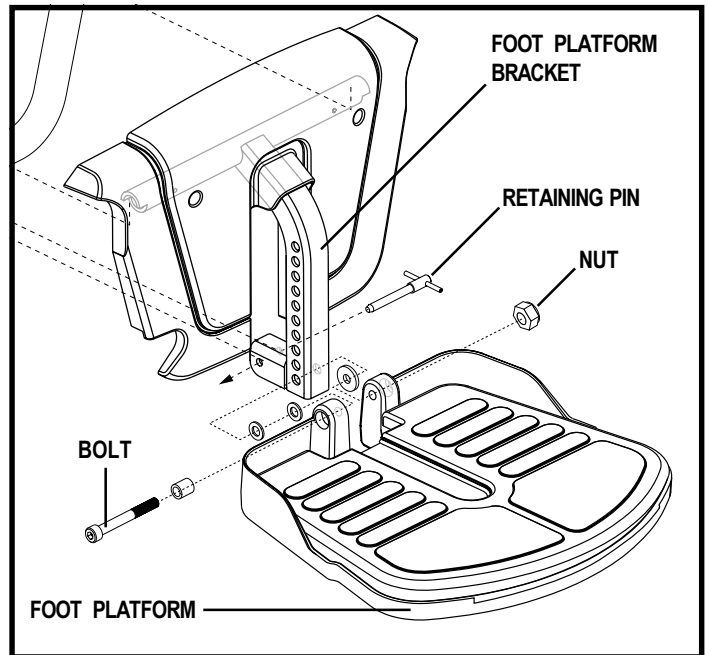

Figure 16. Foot Platform Assembly
6. Remove the retaining pin and lift the foot platform assembly off of the power base. See figure 16.
1. Remove the nut and bolt from the foot platform bracket. See figure 16.